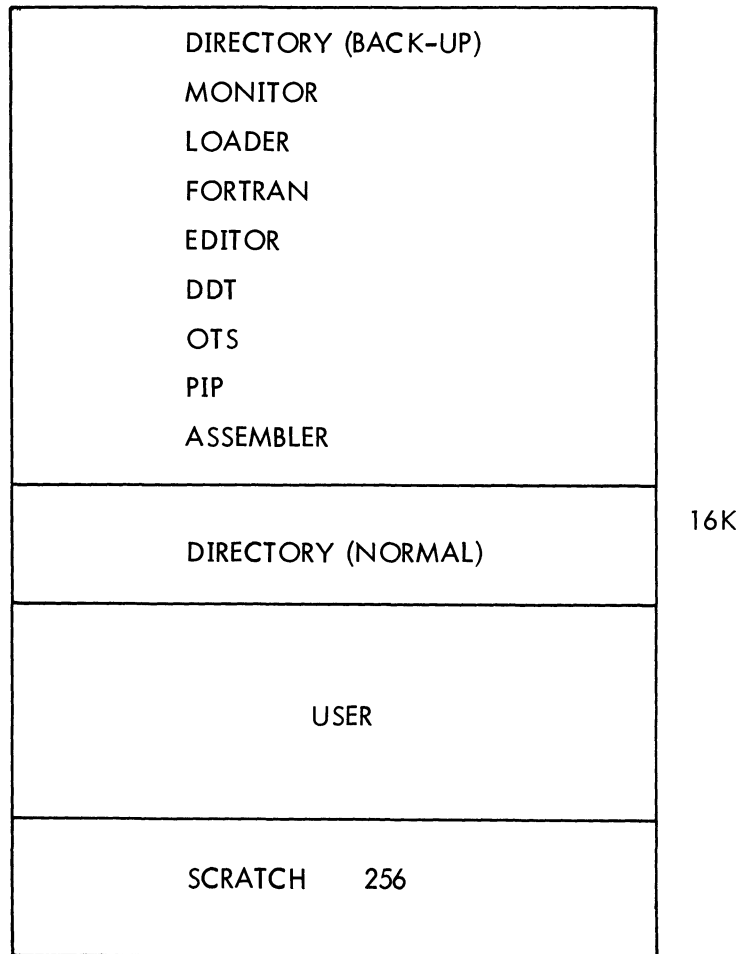
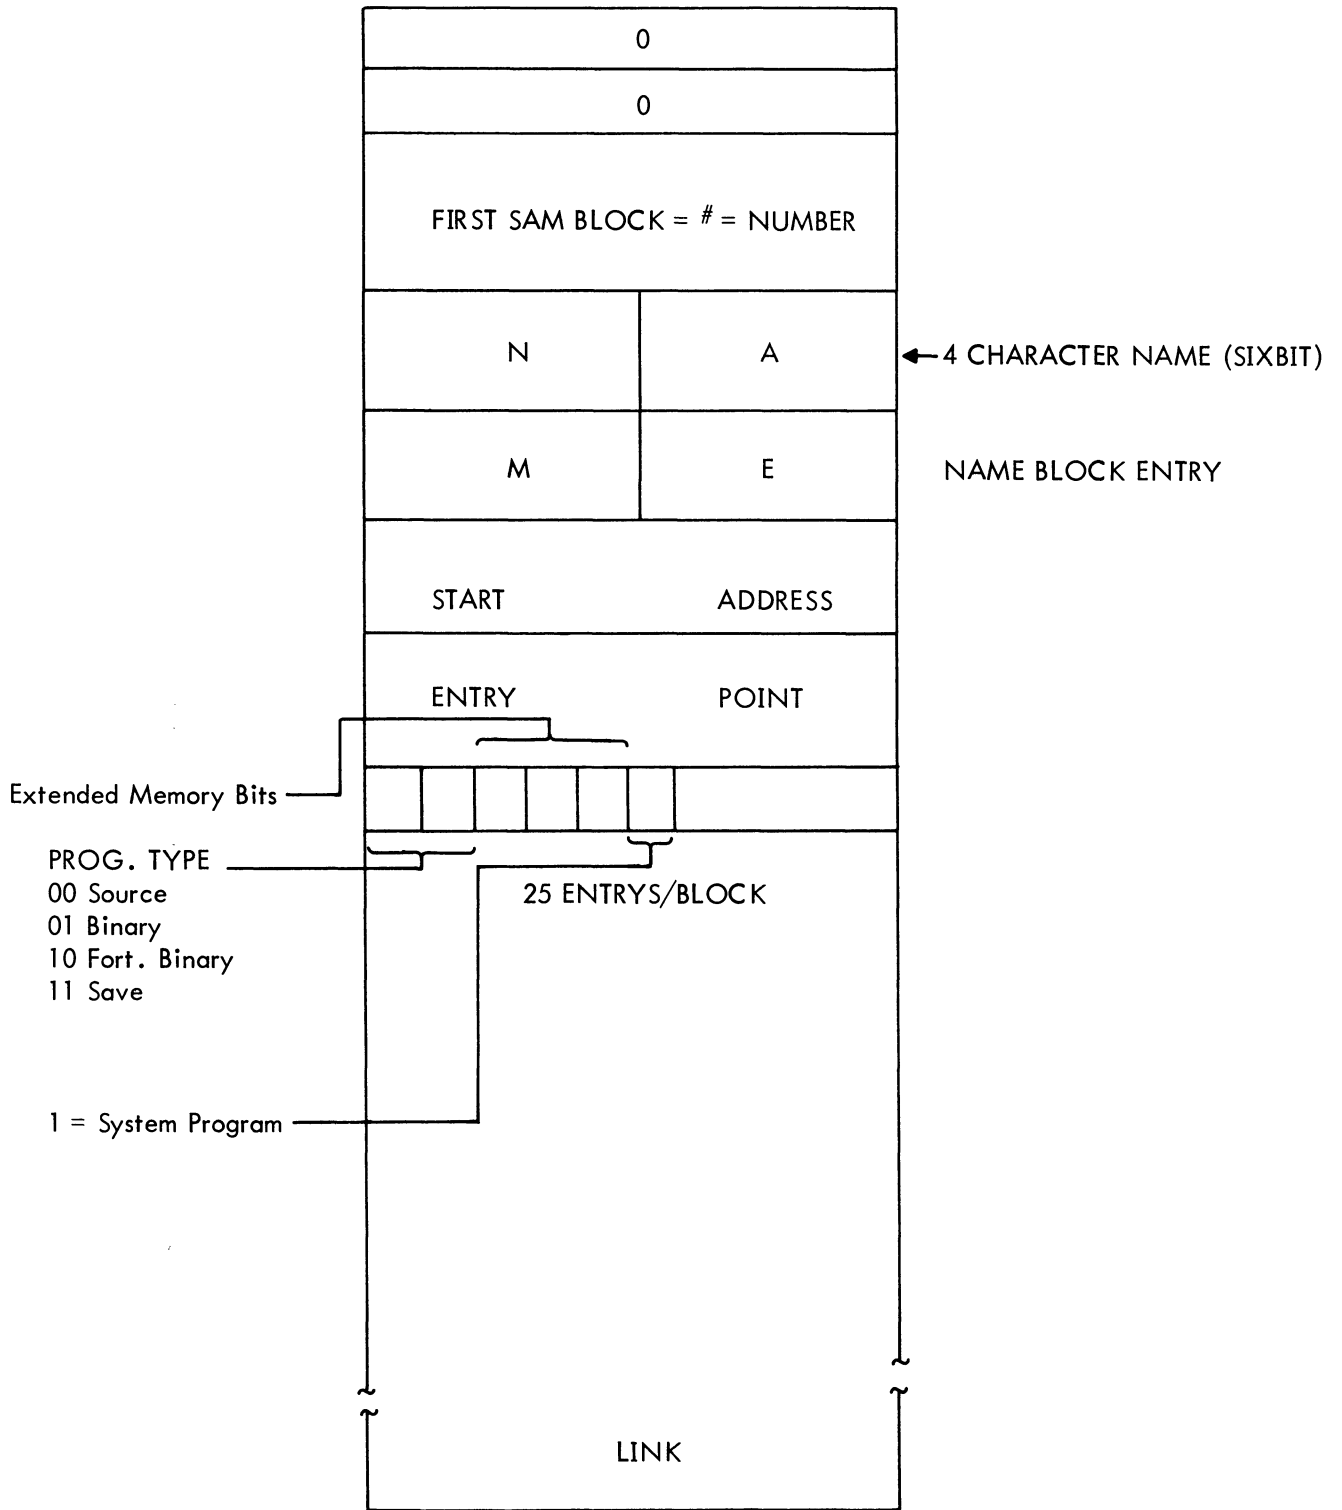

Figure 2 Mass Storage Configuration
Figure 3 Directory Name Block
5.2.1 File Structure - A relatively sophisticated file structure is implemented to allow for automatic retrieval of storage for use by the system and a requirement for a single DECTape system. (See Figure 2.) Two types of blocks are present - directory name (DN), and storage allocation map (SAM) blocks. The former are described in Figure 3, the latter in Figure 4. All blocks are linked with the end of chain line - 0. The top of the SAM block chain is addressed in all DN blocks. The SAM block is the item which allows automatic storage retrieval. Each DN entry has a SAM number between  $1-77_8$ . A zero means unused. A SAM block has a record of  $256_{10}$  pages of mass storage (Figure 4). The first page of any numbered program is found by searching SAM blocks until an entry with matching number is found. To add to a file, find a SAM block entry equal to 0, insert the correct SAM number and adjust the storage block linking. To delete a block, the DN entry is cleared and the SAM block entries (equal to the DN number) are zeroed out.